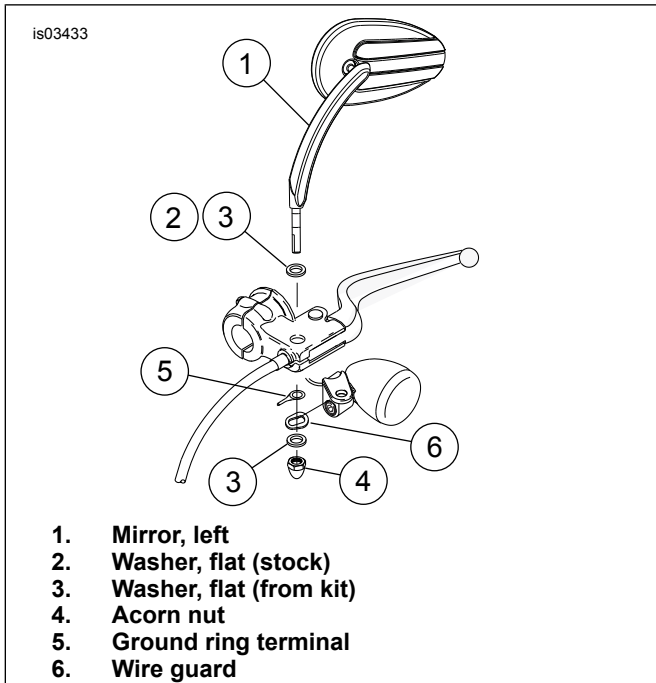

Figure 1. Install Left Lighted Mirror
- See Figure 1. Remove acorn nut (1), star washer (2) and existing mirror (3) from clutch hand control assembly. Discard star washer and mirror but save acorn nut.
- See Figure 1. Install new mirror stem (1) through clutch hand control assembly.
- Install stock washer (2) or flat washer from kit (3) on top of hand control assembly (if needed) to stabilize mirror stem.
- Slide mirror power lead wire (gray) through ground wire ring terminal (5) (flat side up), then install ring terminal on mirror stem.
- Slide mirror power lead wire (gray) through wire guard (6), then install wire guard on mirror stem.
- Install flat washer (3) from kit on mirror stem.